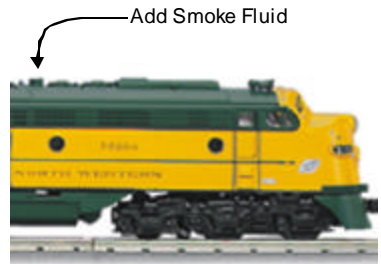

Figure 3. Add Smoke through the Front Smokestack
2. Prime the operating smoke unit with smoke fluid before operating. Add 15-20 drops of smoke fluid through the front smokestack (see Fig. 3 on pg. 10), then gently blow into the stack to eliminate any air bubbles in the fluid.
When preparing to run this engine, add 15-20 drops of smoke fluid through the front smokestack (see Fig. 3). We recommend M.T.H. ProtoSmoke, Seuthe, LGB, or LVTS fluids. Do not overfill the unit or the fluid may leak out and coat the interior engine components.